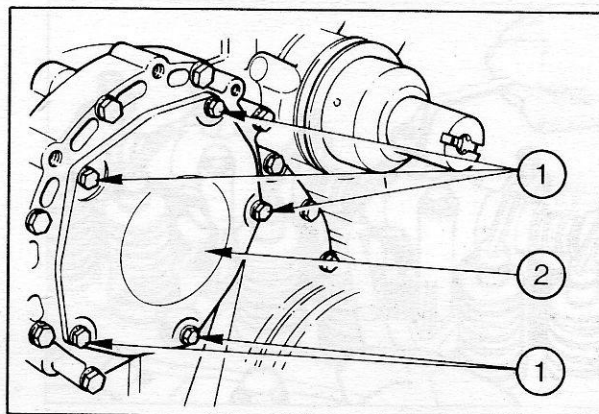

Fig. 57 - Removing Injection Pump Timing Aperture Cover Plate
86. Remove the adjustment cover plate on the front of the timing cover (Fig. 57).